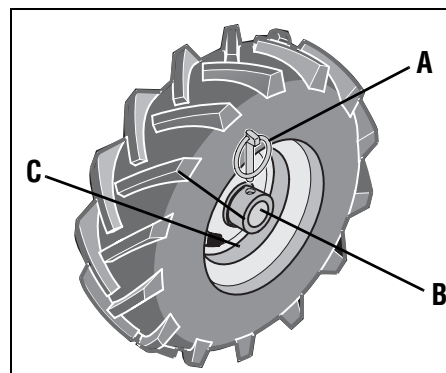

Figure 3-2: WHEEL DRIVE position.
Each wheel is equipped with a wheel drive Klik pin (A, Figures 3-2 and 3-3) that secures the wheel to the wheel shaft (B). The wheels can be positioned in either a WHEEL DRIVE or a FREEWHEEL mode.
3. Remove Klik Pin (A, Figures 3-2 and 3-3) from wheel drive shaft (B).
4. **FOR WHEEL DRIVE MODE** (Figure 3-2): Slide wheel outward and align holes in
wheel hub (D, Figure 3-2) and wheel shaft (B). Insert Klik pin (A) through wheel hub (C) and wheel shaft (B). Repeat with the other wheel and then remove the support from beneath the transmission.